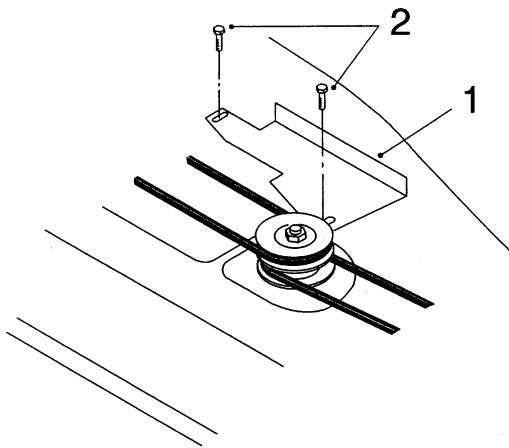

Figure 6
1. **42" mowers only:** Mount the mower belt-cover bracket (Fig. 6) to the mower using two 1/4" x 1/2" thread-forming hex-head flange screws in the same holes that the original cover used.